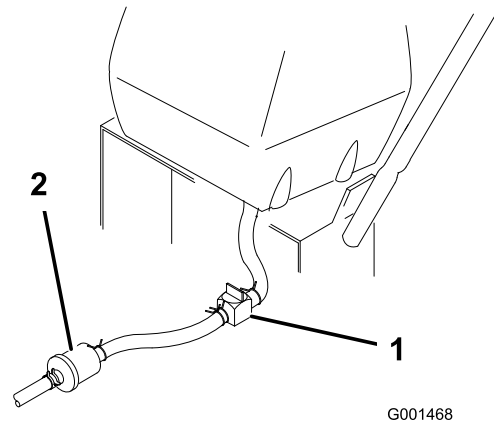

Figure 34
4. Close the fuel-shutoff valve at the fuel tank (Figure 34).
5. Squeeze the ends of the hose clamp together and slide it up the fuel line away from fuel filter (Figure 34).
6. Pull the fuel line off the fuel filter (Figure 34).
3. Close the fuel-shutoff valve at the fuel tank (Figure 34).
5. Open the fuel-shutoff valve (Figure 34).